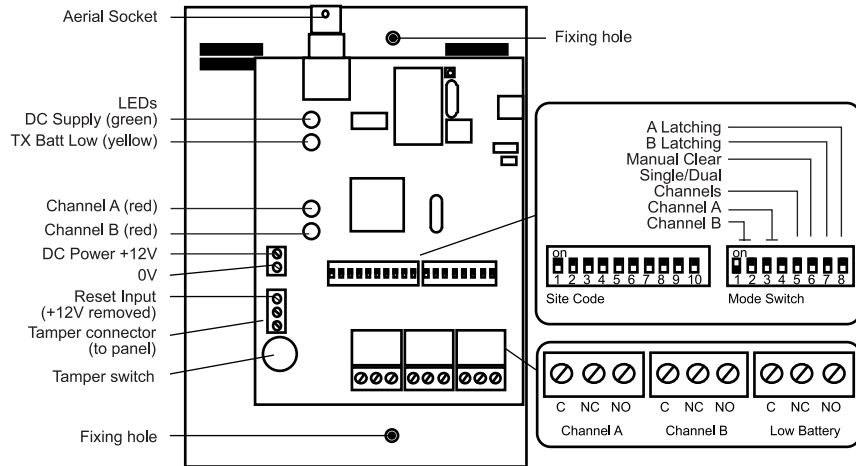

Figure 1. Internal Layout
- Use the external reset connector (see Fig 1).